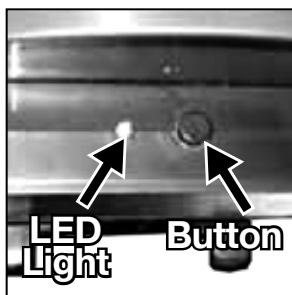

Figure 5a
Press the button once to turn the Water Pump on; the LED light will flash to indicate the Water Pump has been turned on (Figure 5a and 5b). The Water Fountain will automatically turn off after one hour daily. The Water Fountain will then turn on again at the same time each day daily, simply press the button and enjoy.
**Turning the Water Fountain off:** To stop the Water Fountain, manually press and hold the button for over 2 seconds (Figure 5a and 5b).